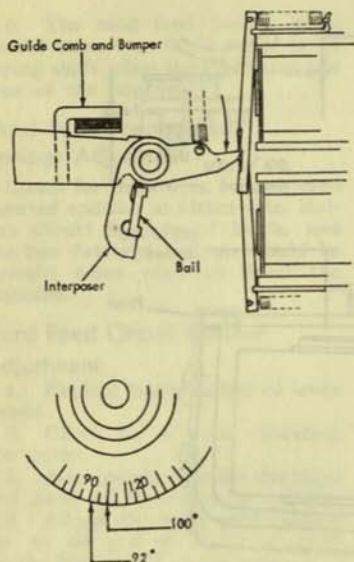

Figure 21. Interposer Relatching
1. Trip four interposers across the unit and position the unit vertically so that the interposers start to relatch in the armature notches at 92° and are all in their notches by 100° (Figure 21). The space interposer latching time will vary, but may not be later than 100° .